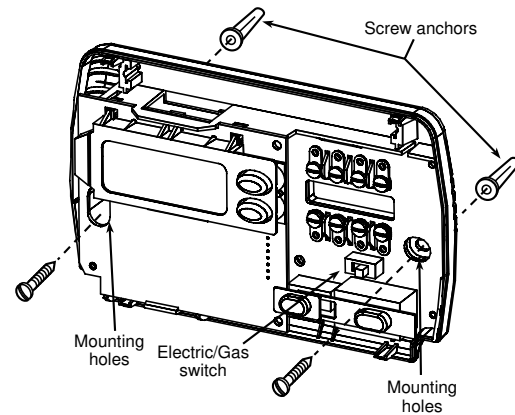

Figure 1. Thermostat Base
If you have a single-stage heat pump system, OR your system uses central electric heat, where the blower is energized by a **separate circuit** through the fan relay (meaning that the fan turns on immediately on call for heat), then the switch on the thermostat base must be moved to the "ELECTRIC" position (see fig 1). If the thermostat is energizing electric heat sequencers, the switch **MUST** remain in the "GAS" position.
5. Fasten base loosely to wall, as shown in fig. 1, using two mounting screws. Place a level against bottom of base, adjust until level, and then tighten screws. (Leveling is for appearance only and will not affect thermostat operation.) If you are using existing mounting holes, or if holes drilled are too large and do not allow you to tighten base snugly, use plastic screw anchors to secure subbase.